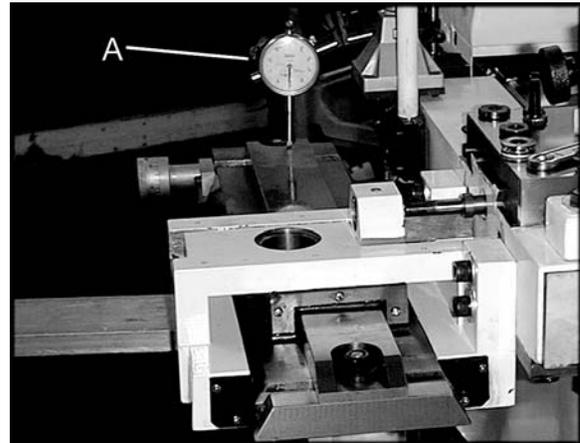

Figure 6
9. Install and level the longitudinal slide from end to end using a dial indicator. Keep the interior slide block centered on the lead screw. The slide assembly is level when it is less than .005" from end to end (A, Figure 6).